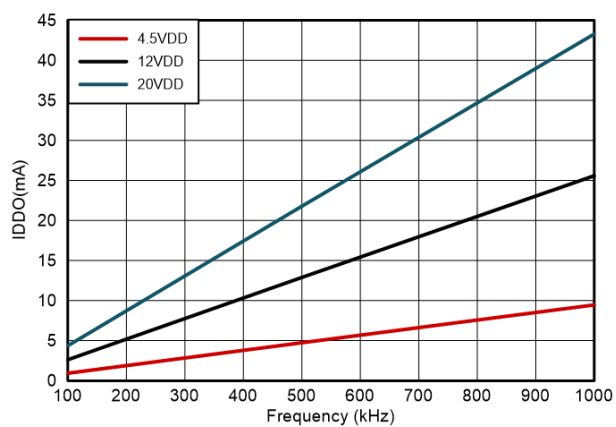

图 6-4. Operating Supply Current
- (1) Operation outside the Absolute Maximum Ratings may cause permanent device damage. Absolute Maximum Ratings do not imply functional operation of the device at these or any other conditions beyond those listed under Recommended Operating Conditions. If outside the Recommended Operating Conditions but within the Absolute Maximum Ratings, the device may not be fully functional, and this may affect device reliability, functionality, performance, and shorten the device lifetime.
- (2) All voltages are with respect to GND unless otherwise noted. Currents are positive into, negative out of the specified terminal. See Figure 6.4 of the data sheet for thermal limitations and considerations of packages.
- (3) These devices are sensitive to electrostatic discharge; follow proper device handling procedures.